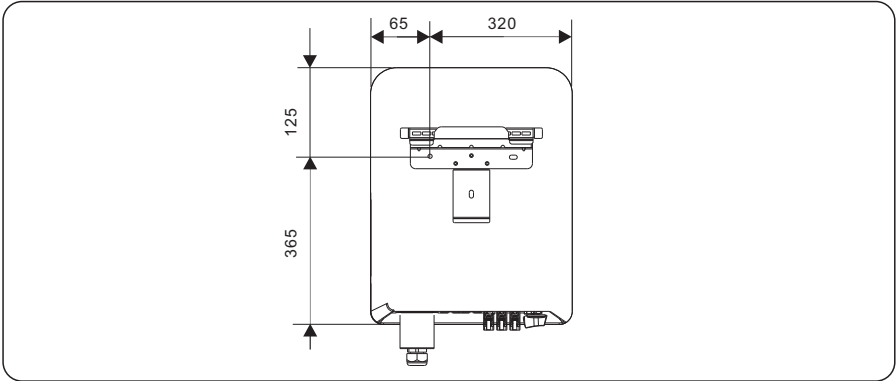

Figure 4.10 Positions determining (unit: mm)
**Step 2** Determine the positions for drilling holes (as shown in Figure 4.10) using the rear panel.